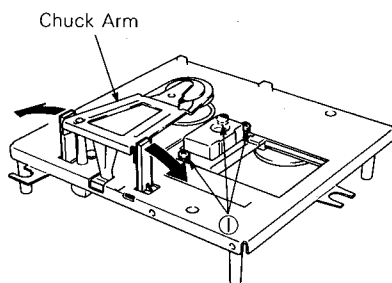

Fig. 4
- Remove 3 screws (1), then remove the Optical Pick-Up. (Fig. 4)
- Undo 2 catches fixing the Chuck Arm to the right and left and remove the Chuck Arm. (Fig. 4)